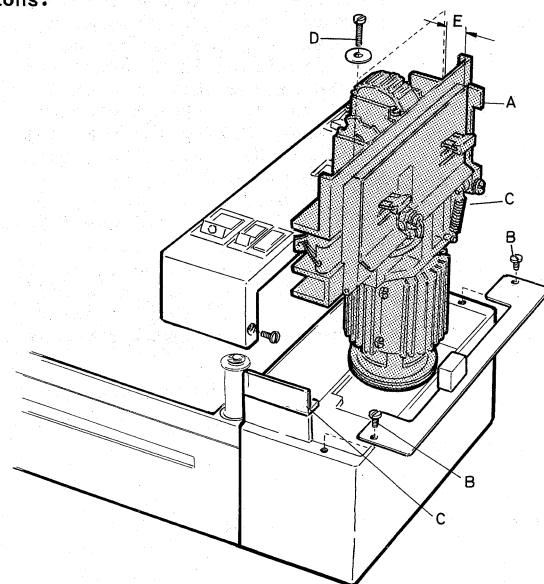

Fig 30
A Removing read module. Fig 30.
- 1 The stand-by lamp must be switched on when the distance E in Fig 30 is less than 30 mm and switched off when the distance is more than 20 mm.